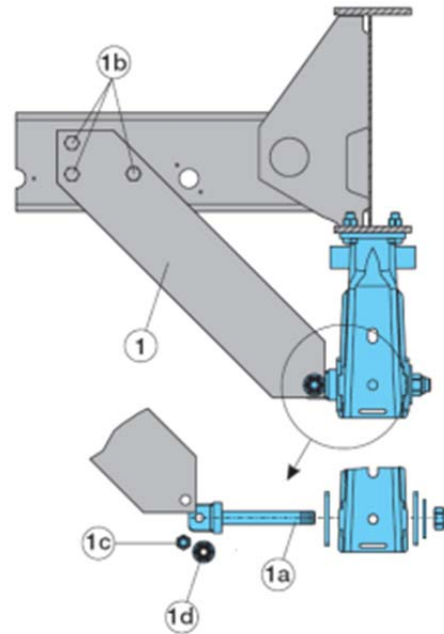

Figure 1: Struts in bolted steel air suspension hanger brackets. (Front view)
The bottom end of the bracing plate (1) is bolted onto the spring bolt (1a) directly using M18 connection bolt with nut (1c, 1d), which therefore permits direct force input. The spring bolt itself is a special flanged bolt. The flange simultaneously serves as a torsion lock. The top end of the bracing plate is bolted with minimum three, grade 10.9, M16, bolts (1b). The holes in the cross member should be dia 16mm and bracing plate should be dia 18mm. Please refer to *figure 1*.